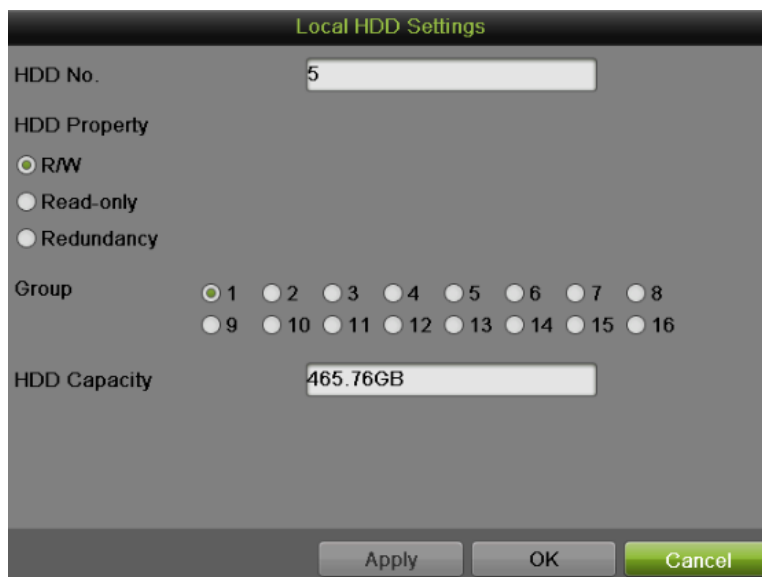

Figure 157 Local HDD Settings
- 1) Select a HDD and click  to pop up the Local HDD Settings menu as shown in Figure 157.